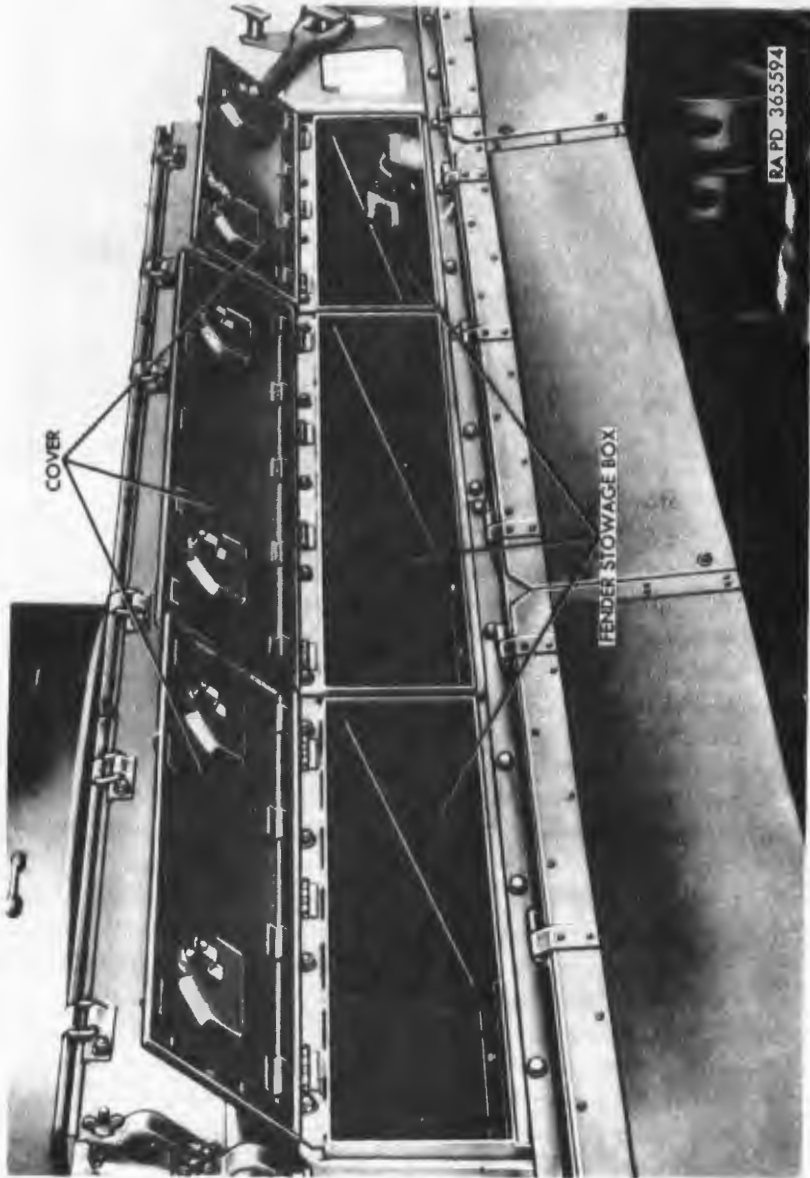
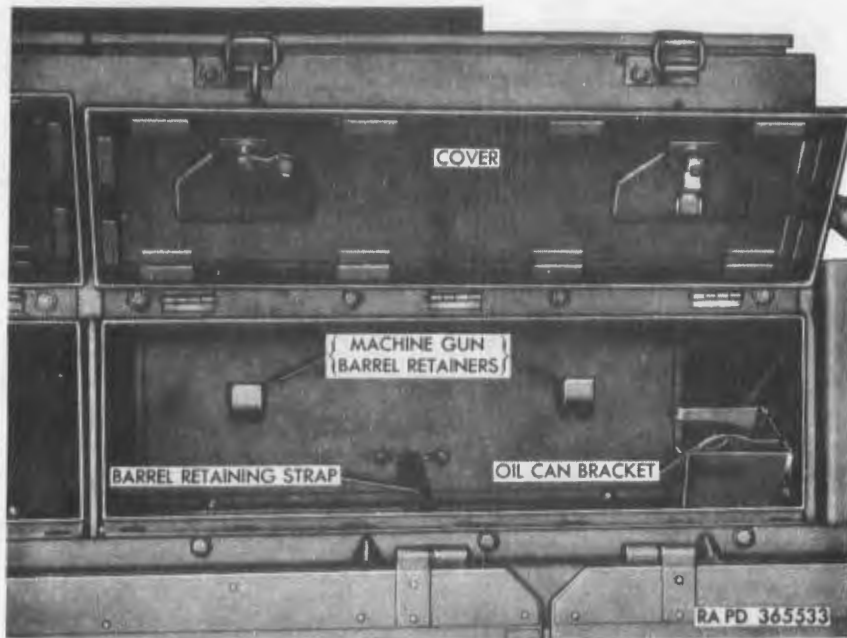

Figure 242. Fender storage boxes—covers open.
Figure 243. Front stowage box components.
- (1) *General.* The stowage boxes (fig. 242) are mounted above the right fender. The front stowage box (fig. 243) has stowage fittings for an oil can and spare machine gun barrel. The rear stowage box has provisions for the hand refueling pump. The front and rear stowage boxes are removed or installed in the same manner.
- (2) *Removal.* Remove four hex-head cap screws and lockwashers from the upper outside edge. Remove three hex-head cap screws and toothed-periphery dome lockwashers from inside of box. Remove hex-head cap screw, safety nut, and four plain washers securing the box to the center fender stowage box and remove box.
- (3) *Installation.* Position stowage box under right ammunition stowage boxes and secure with three $\frac{3}{8}$ x $\frac{3}{4}$ hex-head cap screws and $\frac{3}{8}$ -inch toothed-periphery dome lockwashers on the inside. Secure the box to the center stowage box with one $\frac{3}{8}$ x $1\frac{3}{4}$ hex-head cap screw, to $\frac{3}{8}$ -inch plain washers, two $1\frac{3}{32}$ -inch plain copper washers, and one $\frac{3}{8}$ -inch safety nut. Install four $\frac{3}{8}$ x $\frac{5}{8}$ hex-head cap screw and $\frac{3}{8}$ -inch internal-external-teeth lockwashers in the upper outside edge of the stowage box.